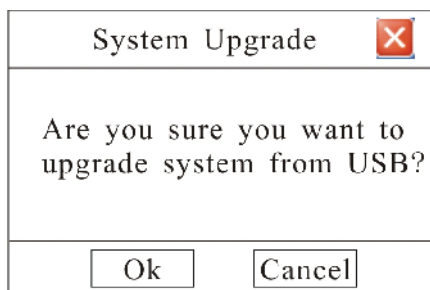

Fig. 42
(1) Create a file with a name of “update” in the USB storage, and copy the firmware file to this directory and rename it with special file name, for example: ocb-dvr404d.img. Then insert external device into USB port of DVR after modification.
(2) Enter “Main Menu—Advanced—Maintenance—USB Upgrade” as shown in Fig.42.